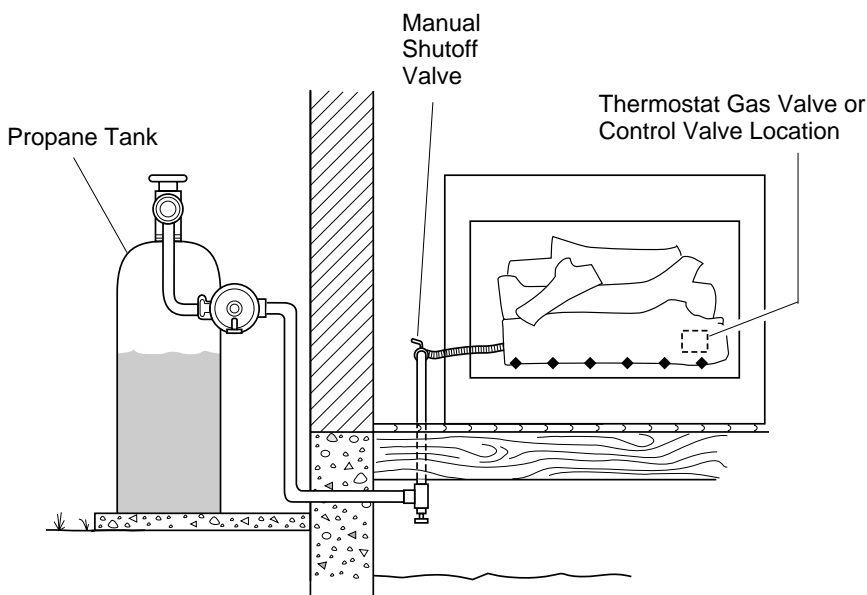

Figure 15 - Checking Gas Joints
3. Check all joints from propane supply tank to manual shutoff valve (see Figure 15, page 12). Apply mixture of liquid soap and water to gas joints. Bubbles forming show a leak.
4. Check all joints from manual shutoff valve to control valve (see Figure 15). Apply mixture of liquid soap and water to gas joints. Bubbles forming show a leak.